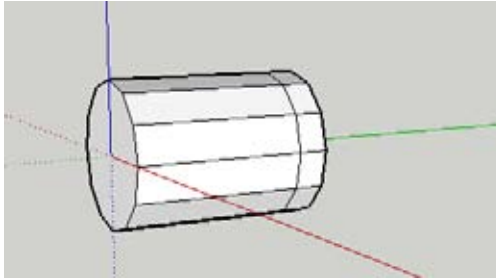

Figure 2-92
2. Activate Push/Pull and pull the polygon out by a long distance. Then press Ctrl/Option and pull it out again by a short distance, as shown in Figure 2-92. One of the longer segments will be used to start the spiral, and the short segments will be copied to form the basis of the spiral path.